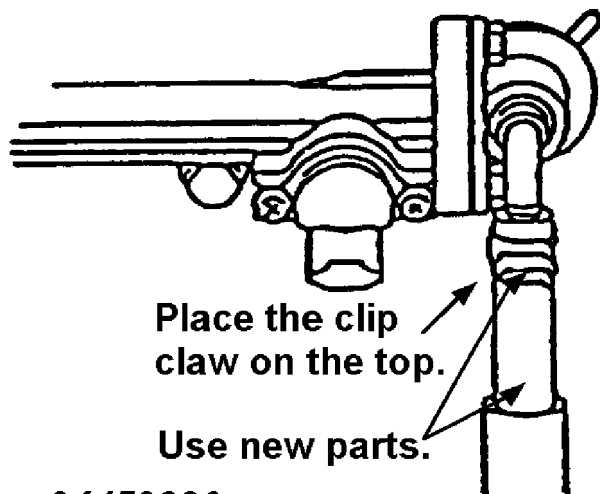

Fig. 23: Return Side of Secondary Fuel Distributor Hose Replacement
29. Replace the fuel hose on the return side of the secondary fuel distributor with a new one. See Fig. 23.
\* For the direction of the clip claws, see Fig. 23.